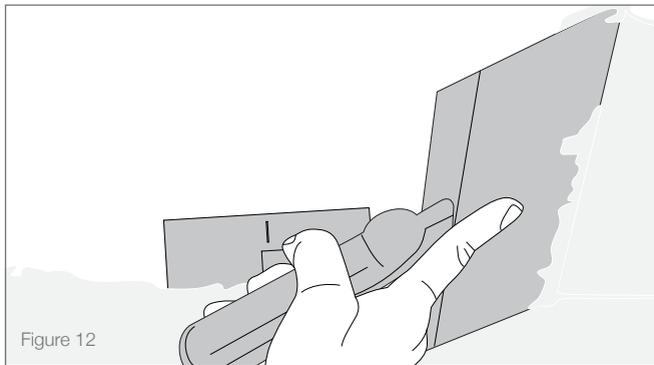

Figure 9
- Coat the tape and entire Mounting Platform with joint compound. This ensures all pits and valleys have been filled. Before fully cured, scrape off any raised portions. Let mud fully cure (see Figure 9).